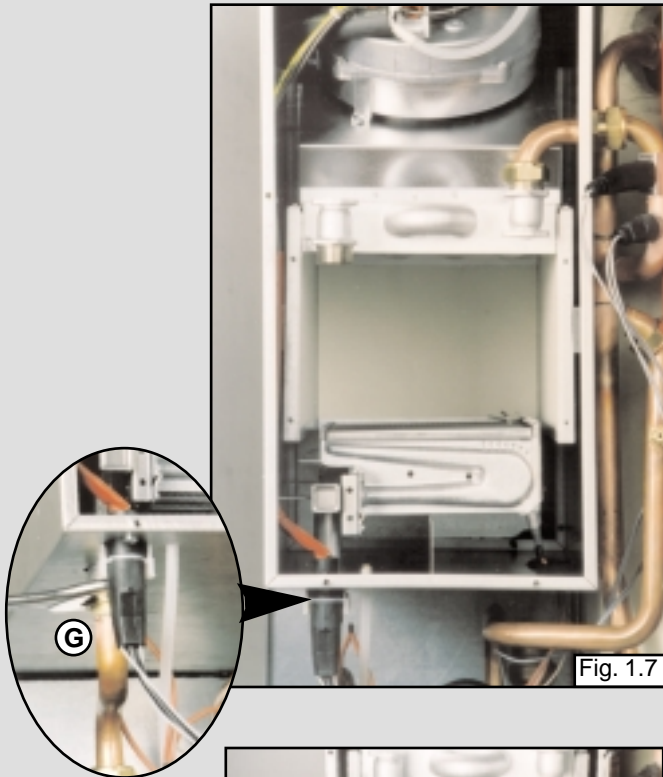

Fig. 1.7
1. Undo the nut "G" of the gas pipe (see fig. 1.7) ;